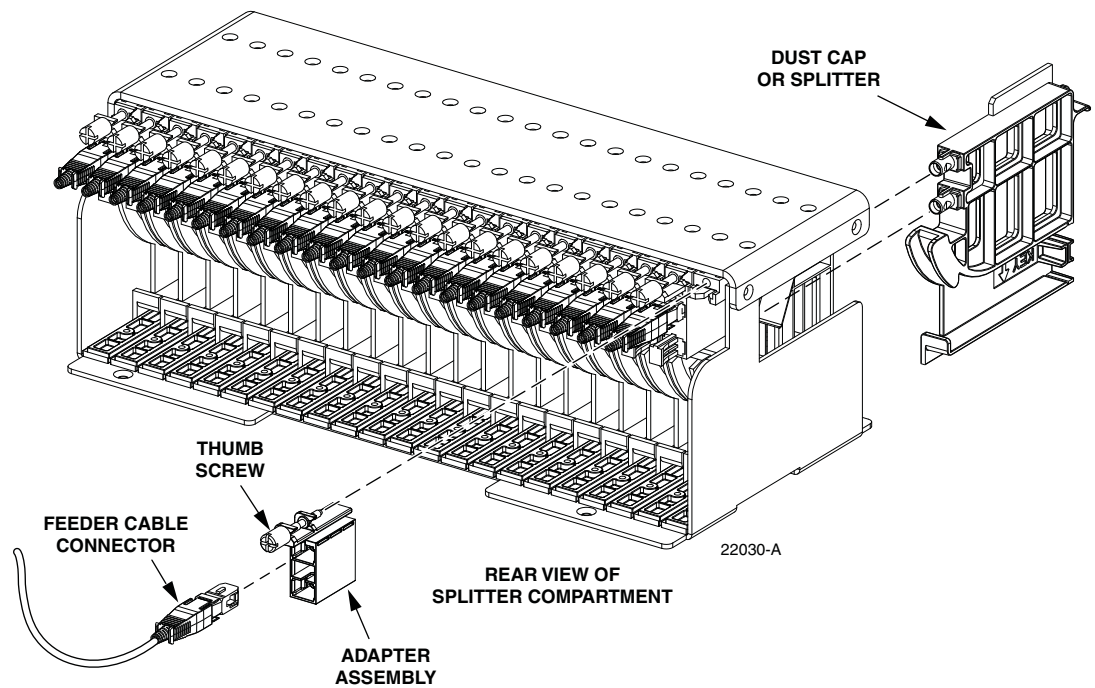

Figure 60. Splitter Compartment Adapter Replacement
3. Remove the feeder cable connector(s) from the rear side of the broken adapter assembly as shown in Figure 60 and install a dust cap on the connector(s).